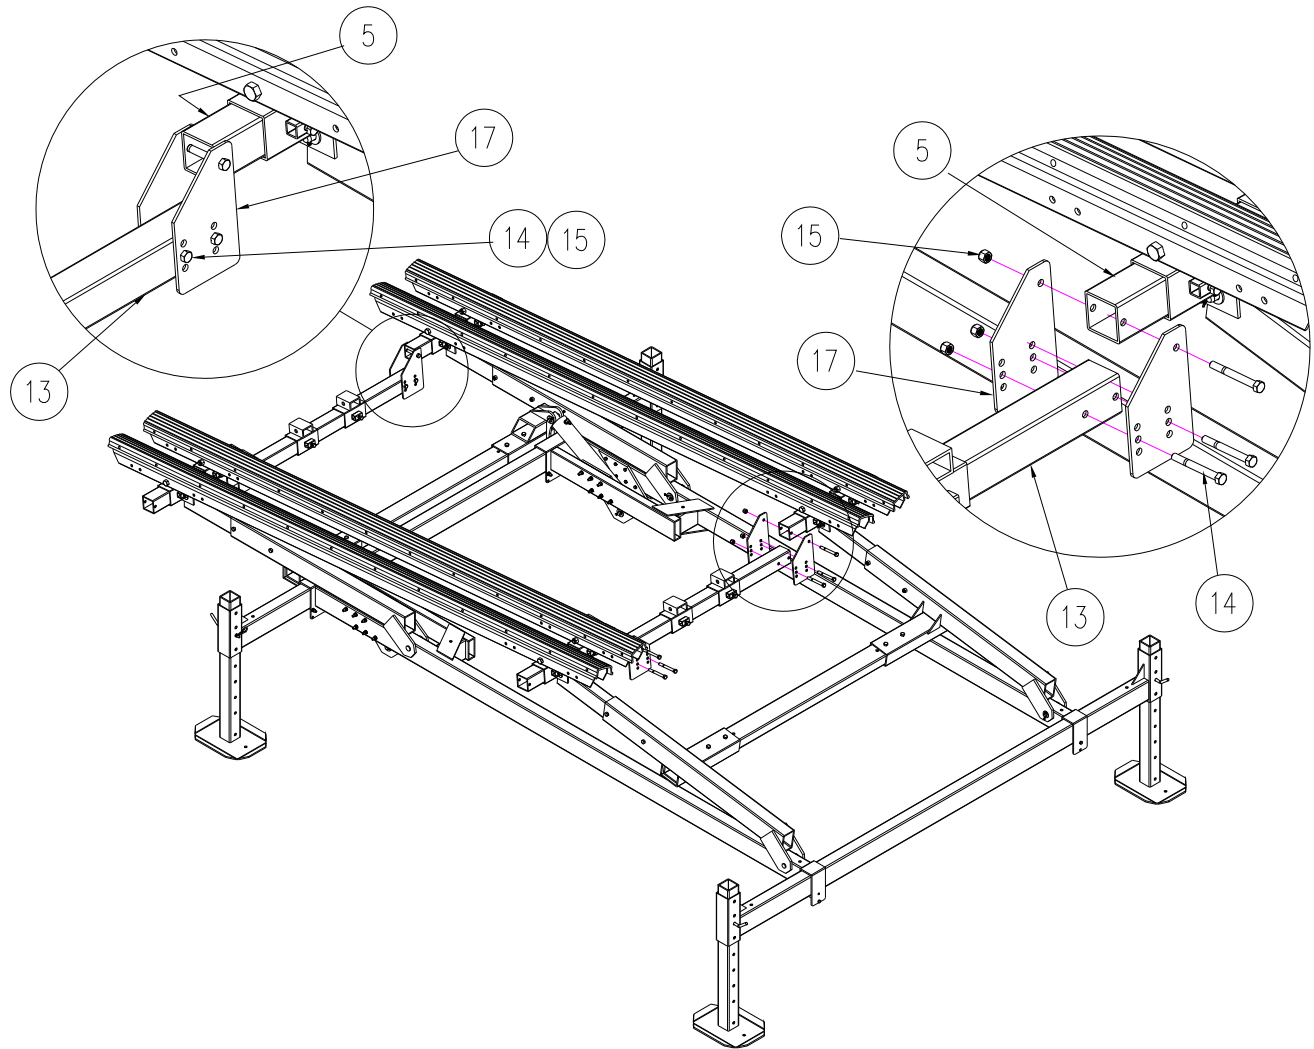

Figure 2-7B.
2. Refer to Figure 2-7B. This section provides instruction to assemble center tube support assembly on the HL lift for Tritoon Boat with larger center diameter Toon.